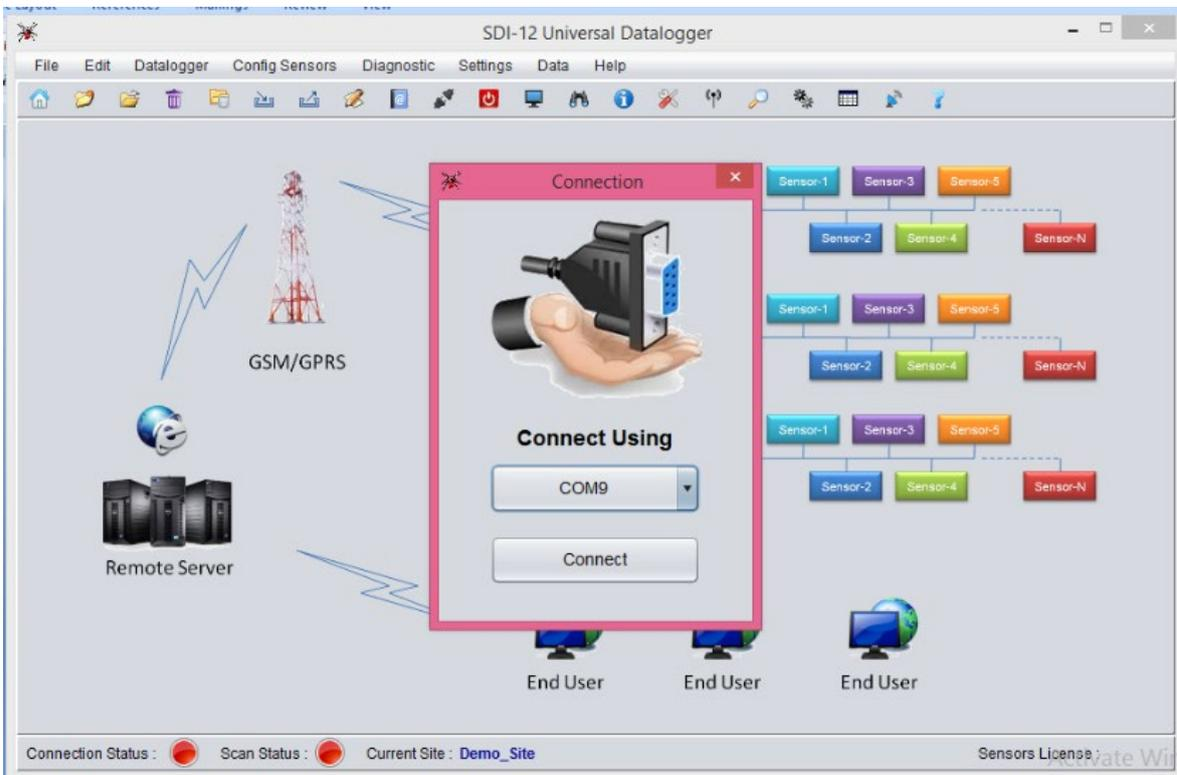

Figure 7-4 Dalalogger connection window of EDSL-30UNI Configuration Manger Software
- After clicking "Connect/Disconnect Datalogger", a "Connection" window will appear as shown below. Select the usable "Com port" and then click "Connect" (figure 7-4).